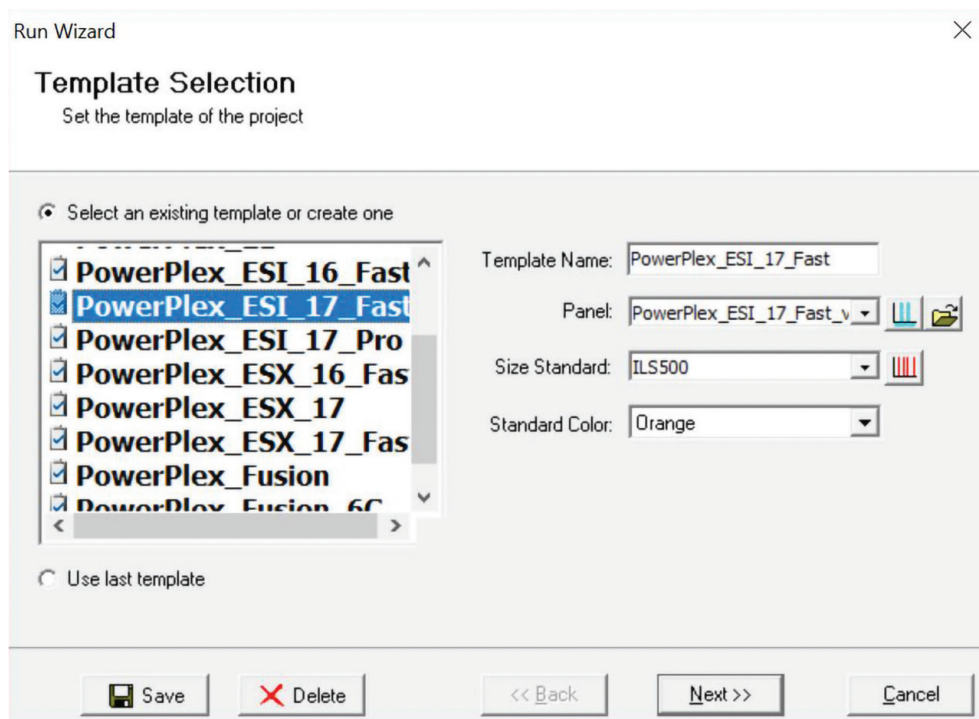

Figure 28. The 'Template Selection' window.
- Click on **Run** in the Magic Wizard or click the **Run Project** icon (green arrow) in the toolbar. The 'Template Selection' screen will appear (Figure 28). Select the PowerPlex_ESI_17_Fast template and the settings shown in Figure 28. Verify the panel that you created in Step 6 is selected in the panel drop-down field. The Size Standard must be ILS500 and the Standard Color must be Orange. Select **Next**.